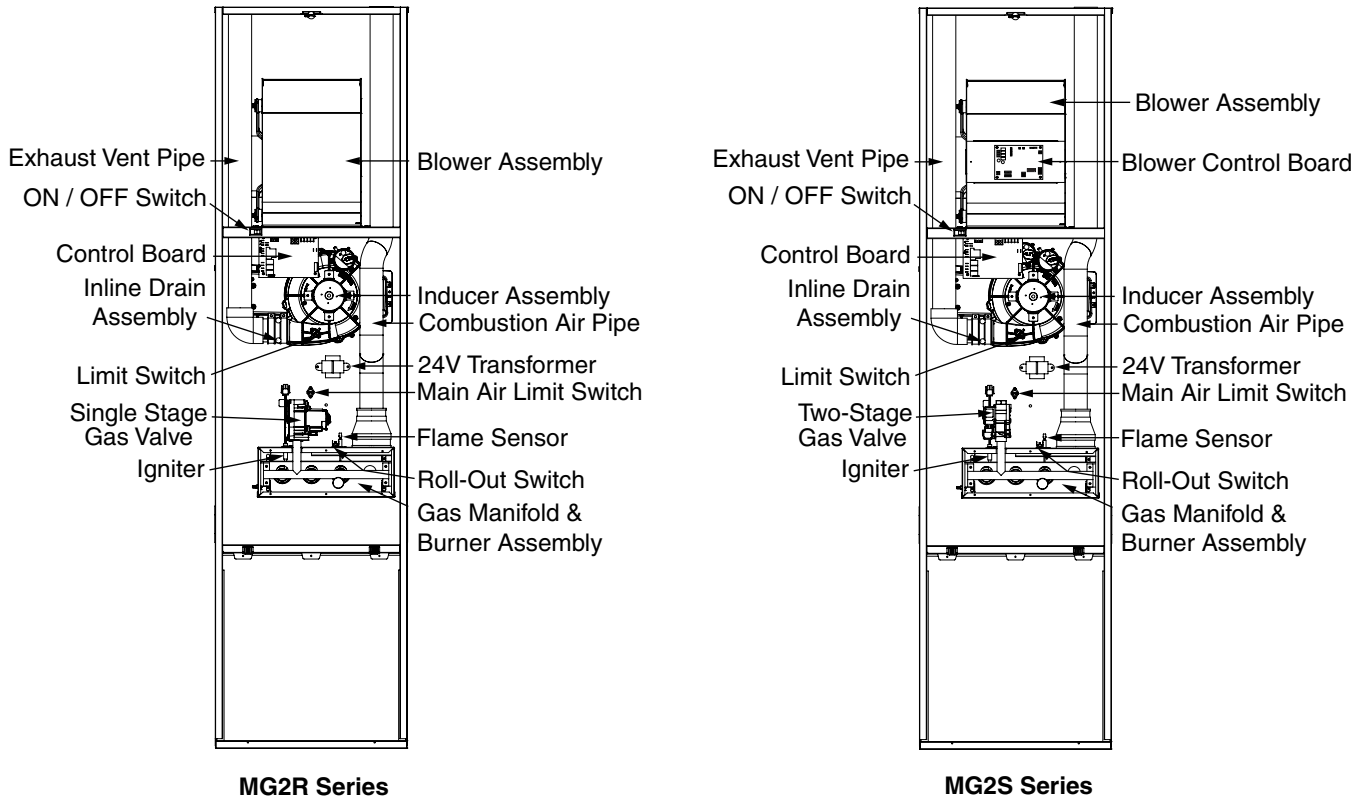

Figure 3. MG2R & MG2S Furnace Components
2. Is the On / OFF switch (inside the blower compartment) turned on? See Figure 3, \(page 8\).
The furnace components shown in Figure 3 will help identify and locate various parts of the furnace. The component you need to familiarize yourself with is the gas valve. You will use this to turn the furnace on and off. There are no user serviceable parts. All repairs must be done by a licensed HVAC technician.